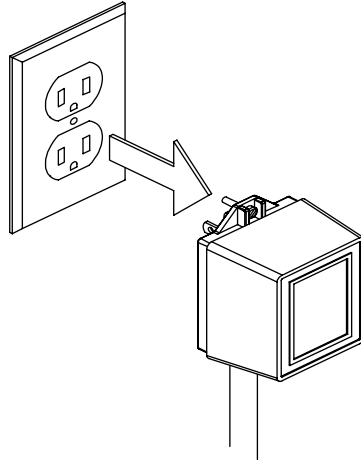

Figure 7
Step 1: Unplug the water heater and Setback Control. This is shown in Figure 7.